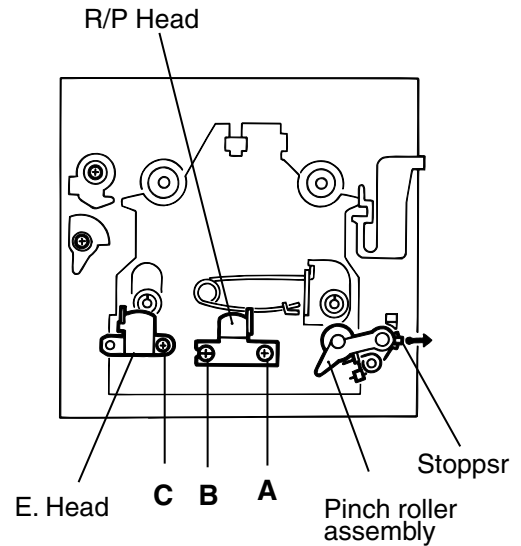
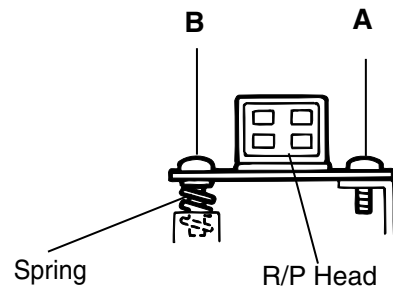

Fig.1
Fig.2
**■ Removing the pickup unit. (See Fig.1)**
**■ Removing the motor board. (See Fig.2)**
**■ Removing the feed motor. (See Fig.1)**
1. Remove the screw **A** on the right side of the R/P head.(Fig.1, Fig.2)
2. Remove the screw **B** on the left side of the R/P head.(Fig.1, Fig.2)
Remove the screw **C** fixing the erase head.(Fig.1)